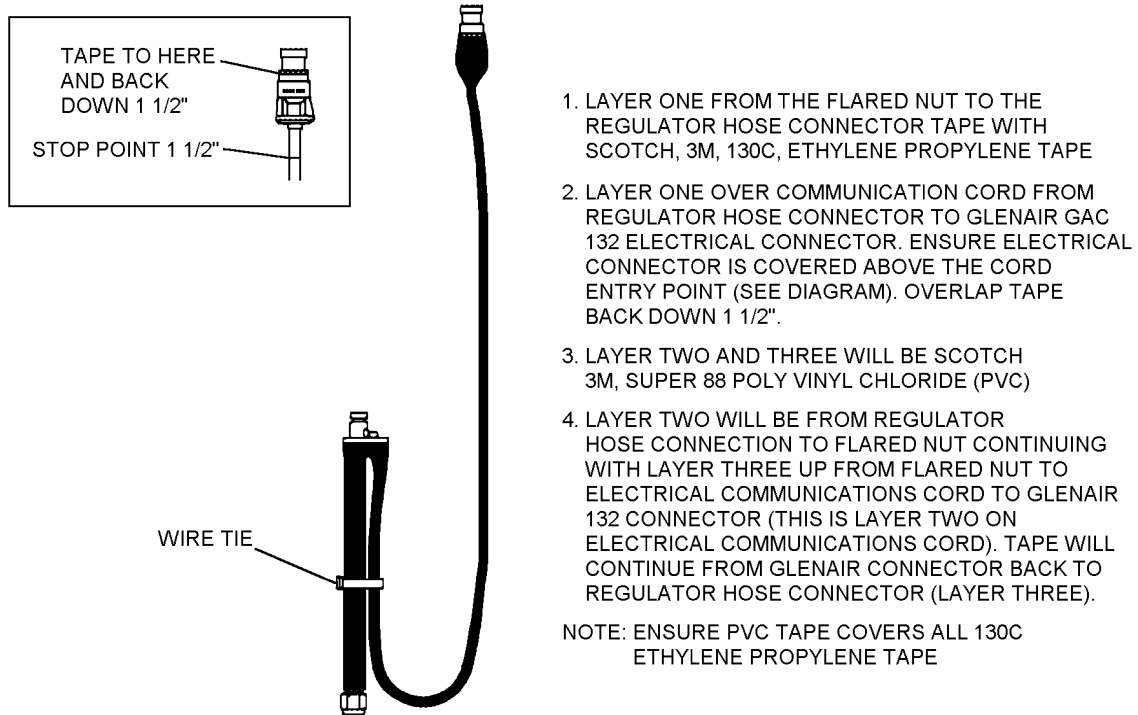

Figure 4-48. Survival Kit to Regulator Hose Assembly Taping
f. Repeat steps b-e with the survival kit to regulator hose assembly (P/N REDAR A11227-1) (figure 4-48). Start taping at the flared nut end of the hose assembly connector. Ensure connector is wrapped completely, continue taping up the communication cord up to the Glenair GAC132 electrical connector.
h. After taping is completed, communication cord can be attached to the regulator hose assembly with a cable tie approximately 2 inches from the flared nut. Cut excess wire tie end (figure 4-48).
g. After taping is completed, communication cord can be attached to the regulator hose assembly with a wire tie approximately 2 inches from the flared nut. Cut excess wire tie end (figure 4-48).